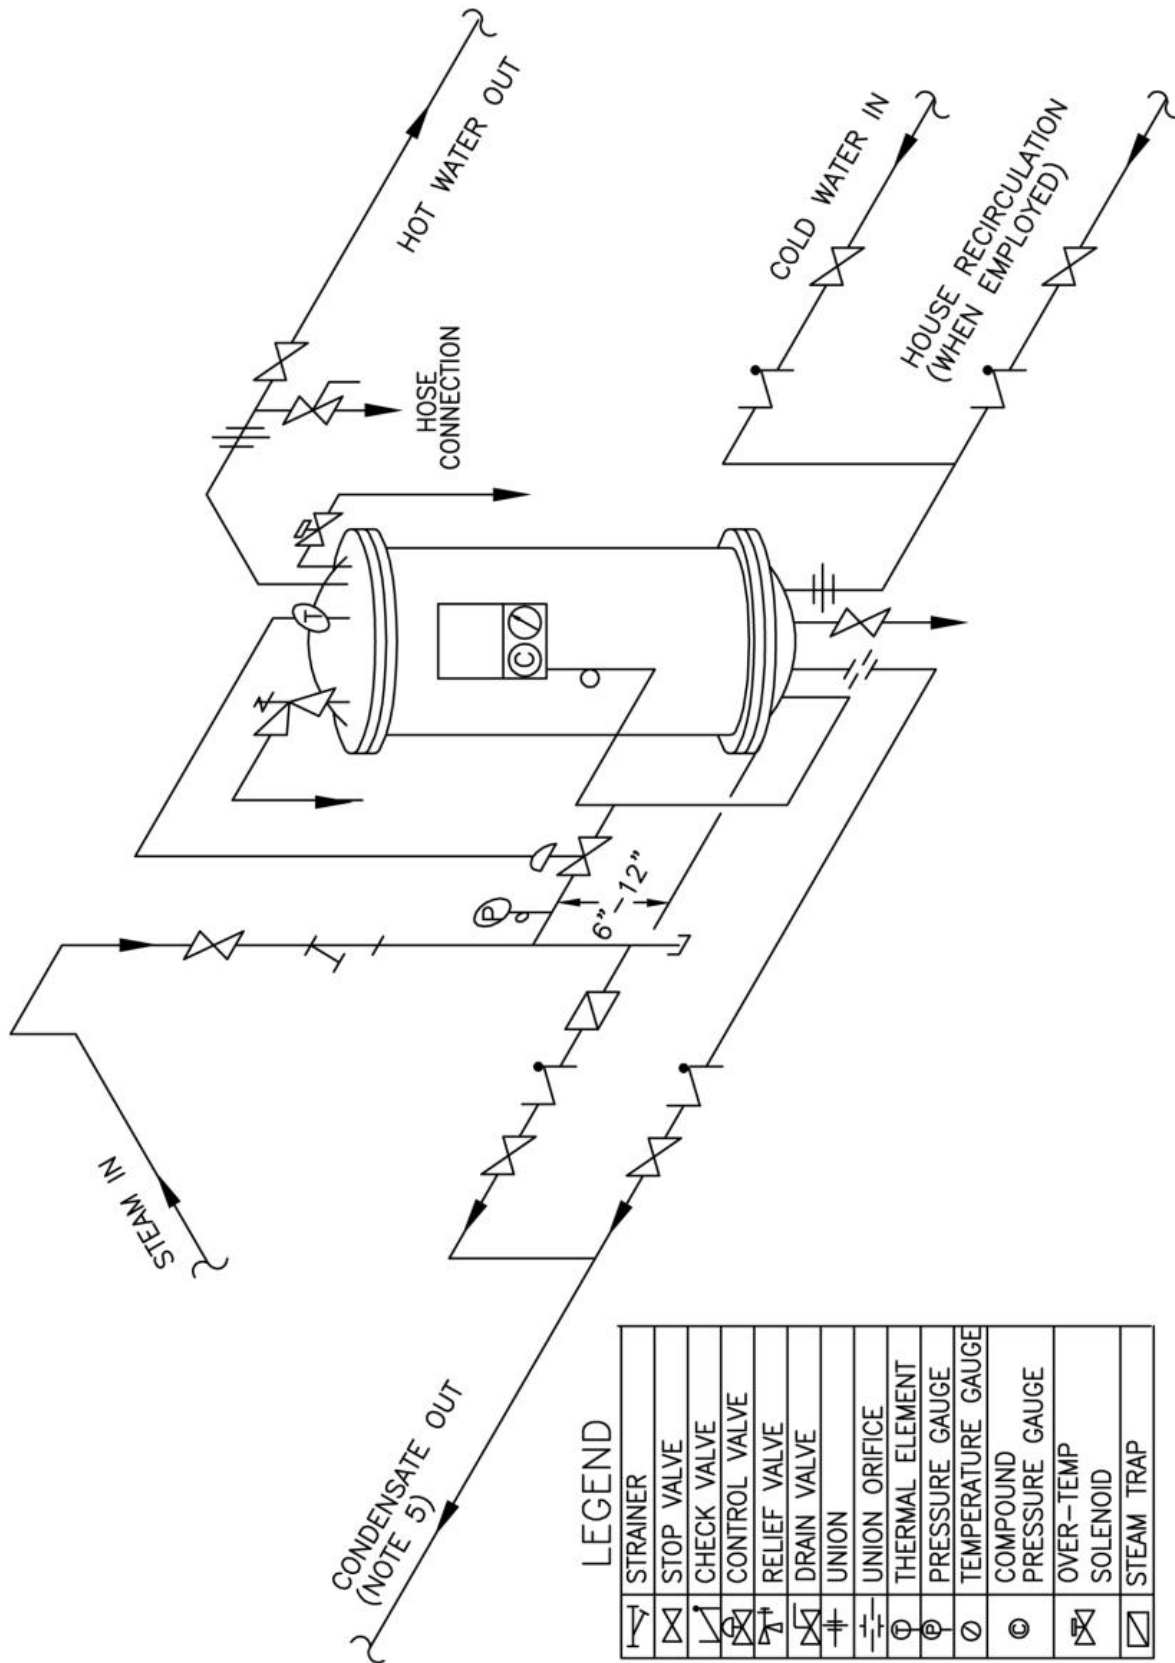

Figure 3 – Piping Connections for a Single Heater
Stop valves, check valves, strainers, unions or flanges, and other piping and fittings as shown in Figures 3 through 6 – are to be furnished by USER.
- a) Single Heater – Figure 3
- d) Include all of the stop valves, check valves, steam traps, and other elements in the piping as shown in Figure 3, 4, 5, or 6, or as separately specified by AERCO. Note that the check valve shown at the Heater in the Condensate return line is furnished in the piping package assembly by AERCO.